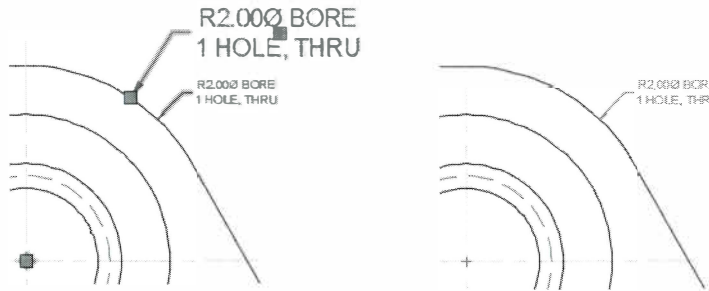

Figure 8–27
- When you add a scale to an object, a scale representation is created. When you select an annotative object that has more than one scale, all of its scale representations display, as shown in Figure 8–27. There is no limit to the number of scales that can be added to an object, but too many scales can be confusing when you try to grip edit the object.